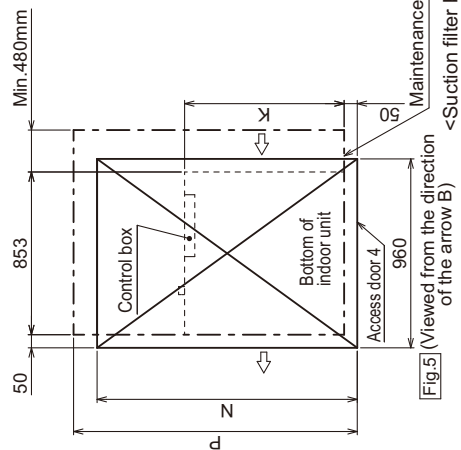

Fig.5 (Viewed from the direction of the arrow B) <Suction filter box built-in-specification>
- Create access door 4 below the control box and the unit as shown in Fig.5.